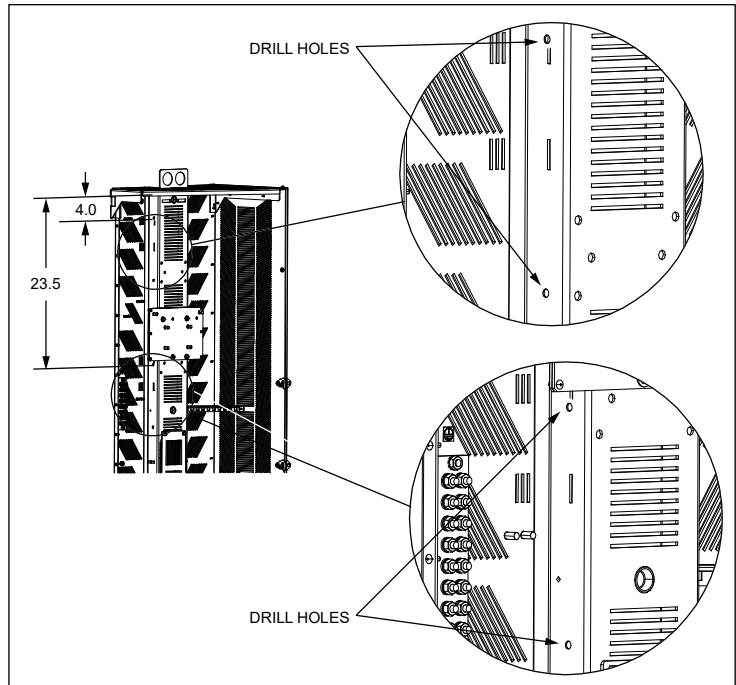

Figure 5
1. Measure down 4" from the top panel and hold the bracket against the spine with the mounting hole flanges on the left side. Mark the locations for the mounting holes for the first bracket (Figure 5).